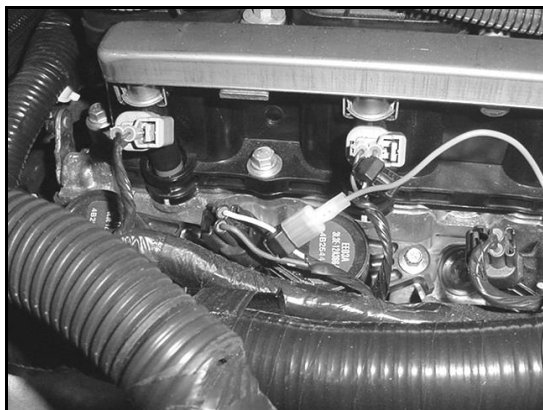

Figure 18
10. Connect the tan wire of the WOT/Window Switch to any coil trigger wire on the Mustang. **See Figure 18.**